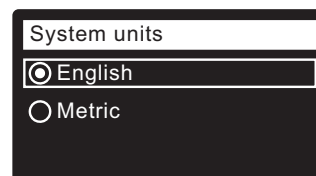

FIG. 24
17. **SYSTEM UNITS** If the desired system already has a dot next to it (See Figure 24), go to Step 18. Otherwise, press the DOWN (▼) or UP (▲) buttons to scroll to the desired system, then press the SELECT (O) button to choose it.
18. Press the SELECT (O) button.